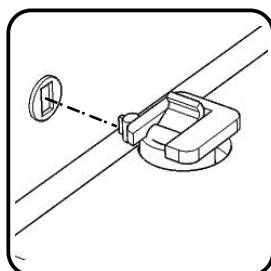

Figure 2
Attach Middle Panels (G) and (H) to unit, then flip the locks. (See Figures 2 and 3)